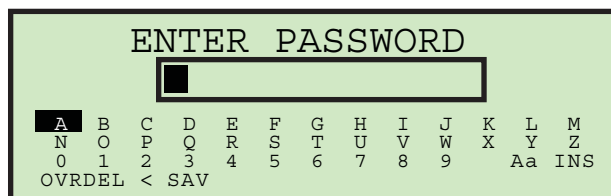

Figure 13: Enter Password screen
4. Use the Arrow keys to highlight an operator and press the Enter button to select the operator. If a password is required for the selected operator, the ENTER PASSWORD screen will be displayed next (see Figure 13). If a password is not required, skip to step 6..